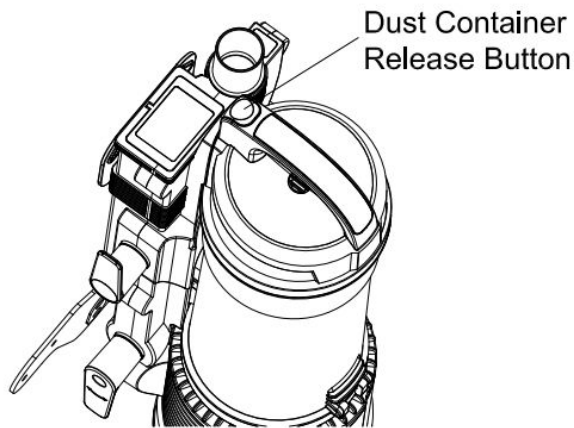

Fig 10
2. Release the dust container by pressing down the release button. (Fig 10)